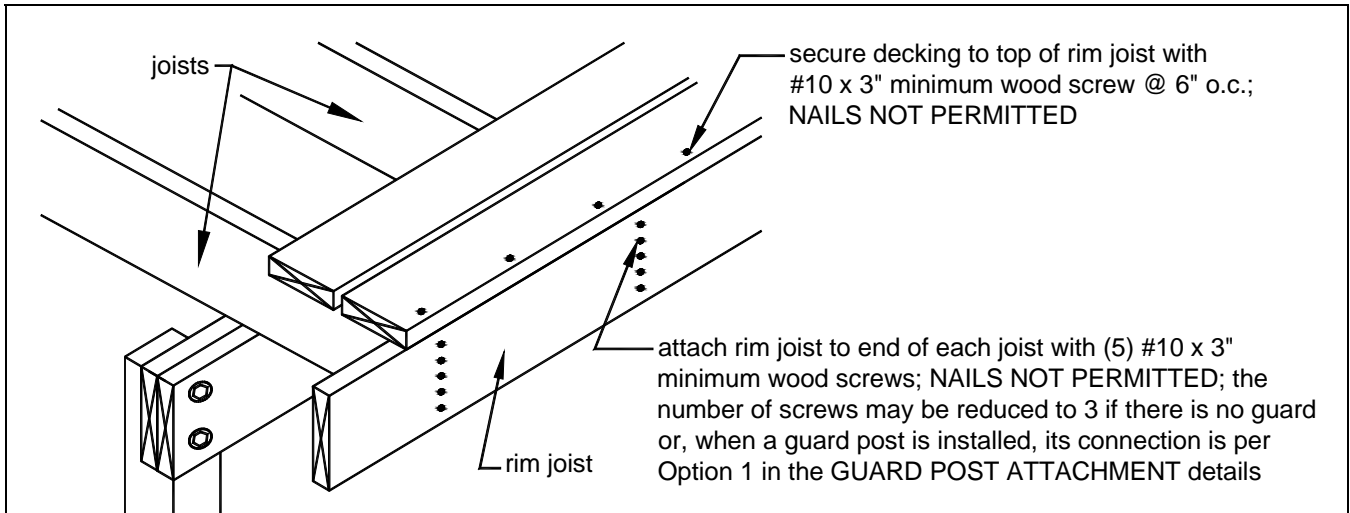

FIGURE 11: RIM JOIST CONNECTION DETAILS
All decking material shall be composed of 2x6 or $5/4$ ("five-quarter") board. Attach decking to each joist with a minimum of (2) 8d nails or (2) #8 screws. Space decking with a $1/8$ " gap between each board. See FIGURE 11 for decking connection requirements at the rim joist. Decking may be placed from an angle perpendicular to the joists to an angle of 45 degrees to the joists.
Attach a continuous rim joist to the ends of joists as shown in FIGURE 11. Attach decking to the rim joist as shown in FIGURE 11. For more decking attachment requirements, see DECKING REQUIREMENTS on Sheet 2.